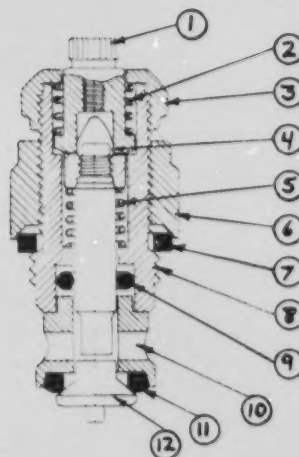

Figure 23-8. Cross-Sectional View of Crane Magiclose Faucet
14. Crane also makes a faucet similar to the Dial-Ese from the exterior, but which is called a Magiclose faucet (Figure 23-8). Components of the Magiclose cartridge are as follows: